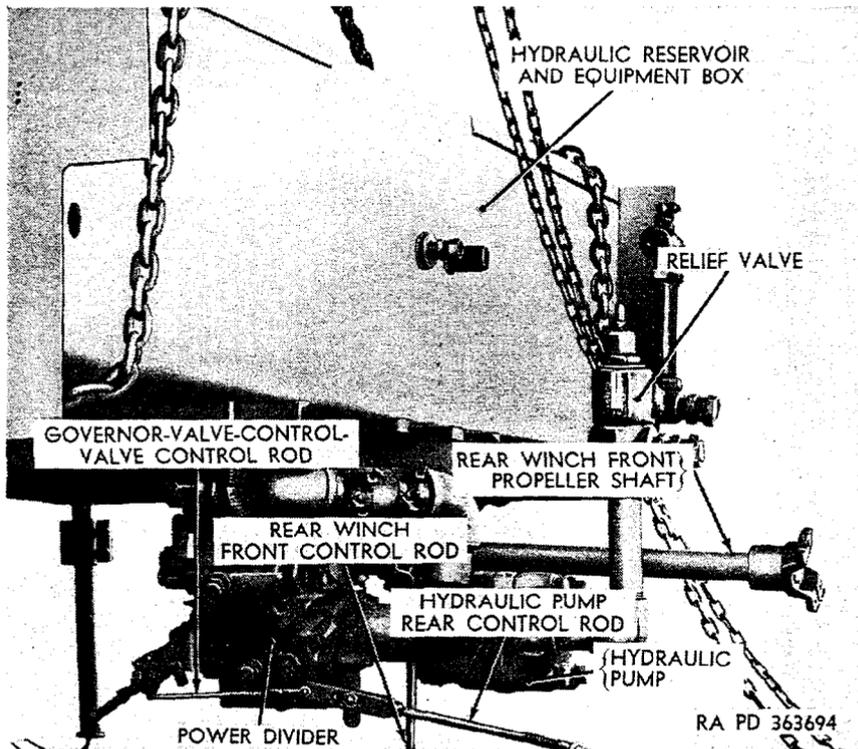

Figure 285. Hydraulic reservoir with power divider, pump, and relief valve removed from vehicle (M62).
- (4) *Power divider assembly.* The power divider assembly (figs. 283 and 284) is a single-speed gear box with one input (drive) shaft and two output shafts. It is mounted by a bracket to the bottom of the hydraulic reservoir (fig. 285). The drive shaft yoke (fig. 284) is connected by a propeller shaft and universal joint to the power-take-off (fig. 207) mounted on the rear of the transfer. The winch output shaft yoke (fig. 283) is connected by a universal joint to the front end of the rear-winch front propeller shaft (fig. 275). The hydraulic
- (6) *Hydraulic pump and relief valve.* The flange-mounted vane-type hydraulic pump (fig. 285) is bolted to the hydraulic pump adapter (fig. 283) mounted on the rear of the power divider. The hydraulic pump output shaft coupling (fig. 283) is keyed to the power-divider output shaft and to the
hydraulic-pump shaft. The adjustable relief valve assembly (fig. 285) is connected to the hydraulic-pump outlet port. The purpose of this valve is to protect the crane hydraulic system from excessive (above 1,200 psi) pump pressures.